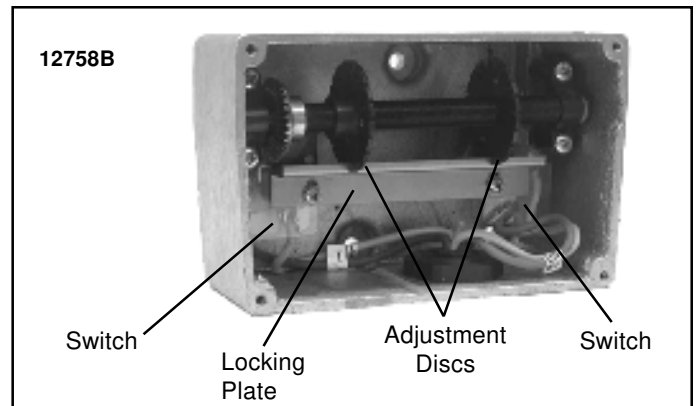

Figure 7-2. Screw-Type Limit Switch Adjustment (Wires Not Shown for Clarity.)
- b) Procedure. Remove load from the hook. To disconnect the geared limit switch, refer to Figure 7-2. Remove the limit switch cover then loosen the two (2) screws holding the locking plate in place. Allow the locking plate to slide down and disengage from the adjustment discs. Do not rotate the adjustment discs.
Position the lower block three inches (3") below the point where the block operated limit switch is activated. The geared limit switch shall be reconnected by sliding the locking plate back into position ensuring slots on adjustment discs are fully engaged and tightening locking plate screws to 4 in-lbs. (See Figure 7-2). The geared limit switch must then be tested.
operate the contacts of separate switches, one for the hoisting circuit and one for the lowering circuit. The switch assembly must be wired in accordance with the appropriate wiring diagram, which is shipped with the hoist. Instructions for adjusting limit switch are inside cover and are repeated below (see Figure 7-2).